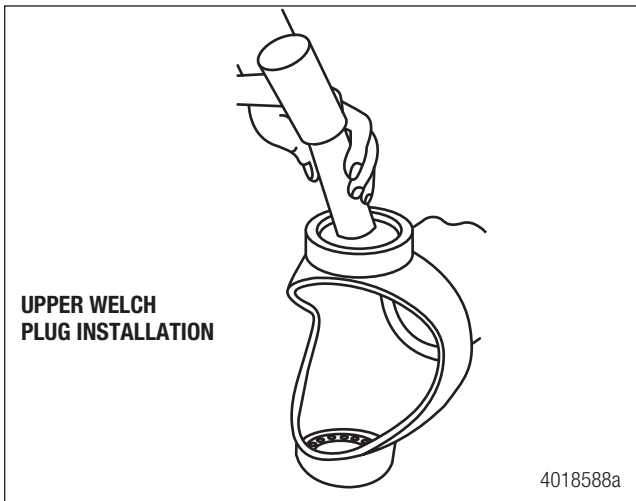
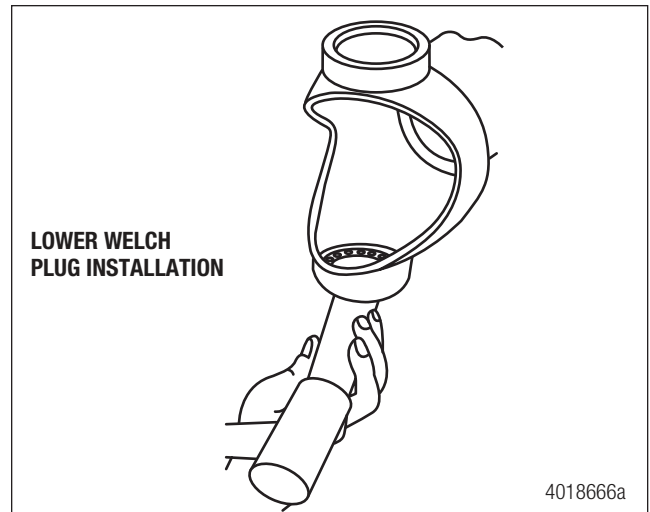

Figure 8.4
Figure 8.5
- Using an appropriate tool (see note below), deform (flatten) the welch plug to seal the housing. Ensure the welch plug is convex (bowed) toward the king pin. Figure 8.4 and Figure 8.5.